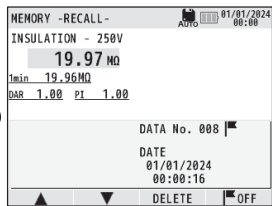

Fig. 15-6
- (2) Press the F1(▲) or F2(▼) switch and select the data you wish to check and press the ENTER switch.
- (3) The selected data is displayed. (Fig. 15-6)
- (4) Press the ESC switch twice to return to the measurement screen.
Pressing the F4 switch on the data recall screen (Fig. 15-6) can put on or off the flag symbol.